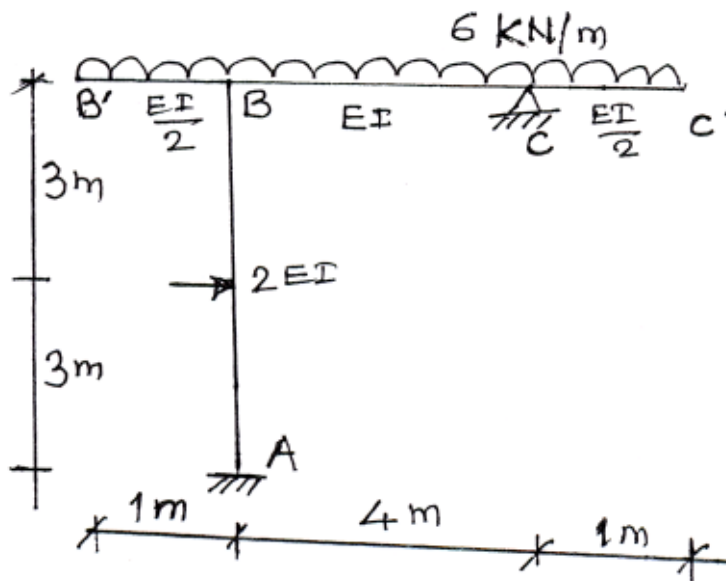

Fig. 2
2. Analyse the rigid jointed plane frame, loaded and supported as shown in fig. 2, using Moment Distribution Method. Draw BMD, SFD and Elastic Curve. 18